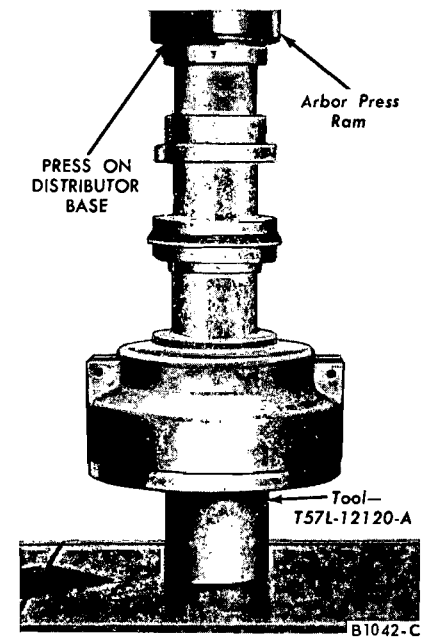

FIG. 14—Upper Bushing Installation
1. Oil the new upper bushing, and position it on the bushing replacer tool. Install the bushing (Fig. 14). When the tool bottoms against the distributor base, the bushing will be installed to the correct depth.